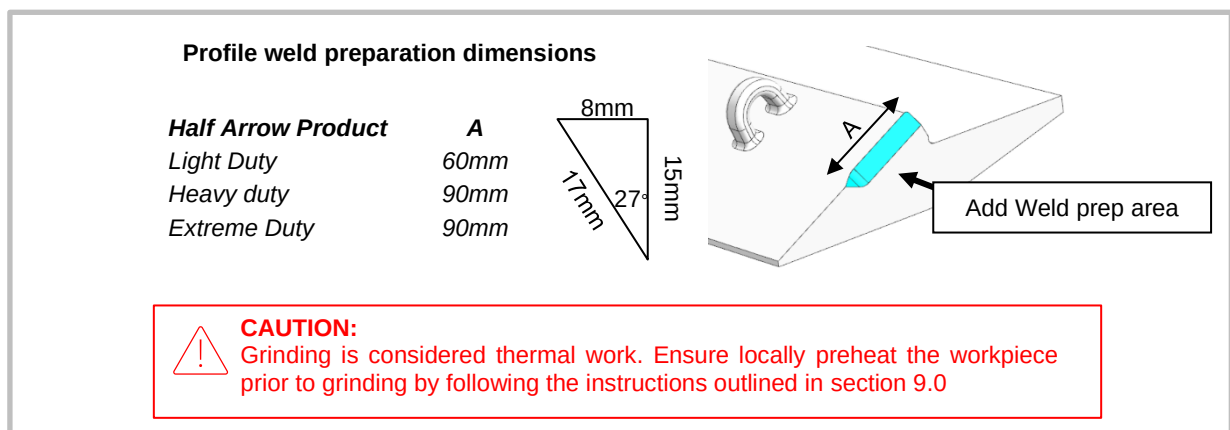

Figure 2 Weld prep size and location.
- 11.1.5. Grind a beveled weld prep edge (use Profile W below) into the trimmed surface of the workpiece (see Figure 2) to the appropriate A length.